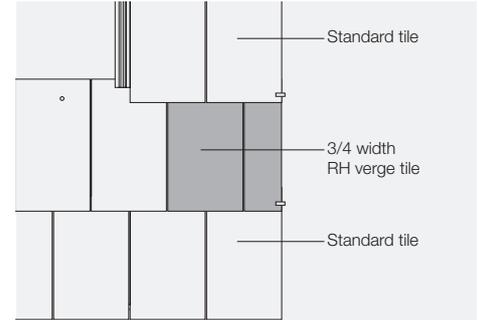

Fig. 18 – Typical bedded verge (right hand)
- Verges should be formed using standard tiles with left hand or right hand 3/4 width verge tiles in alternate courses. Standard tiles on left hand verges will require the sidelock to be removed (Fig. 18).